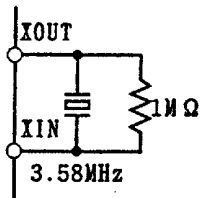

Fig.3
⑤ AGND stabilization capacitor
⑥ Power supply stabilization capacitor
⑦ Bias-current setting resistor
⑧ Crystal Oscillator
- Crystal resonator and a resistor should be connected as shown Fig.3 for on-chip oscillator operation.